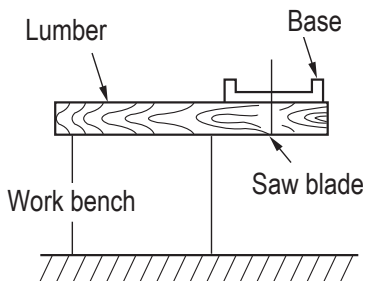

Fig. 16
5. Prepare a wooden work bench (**Fig. 16**)